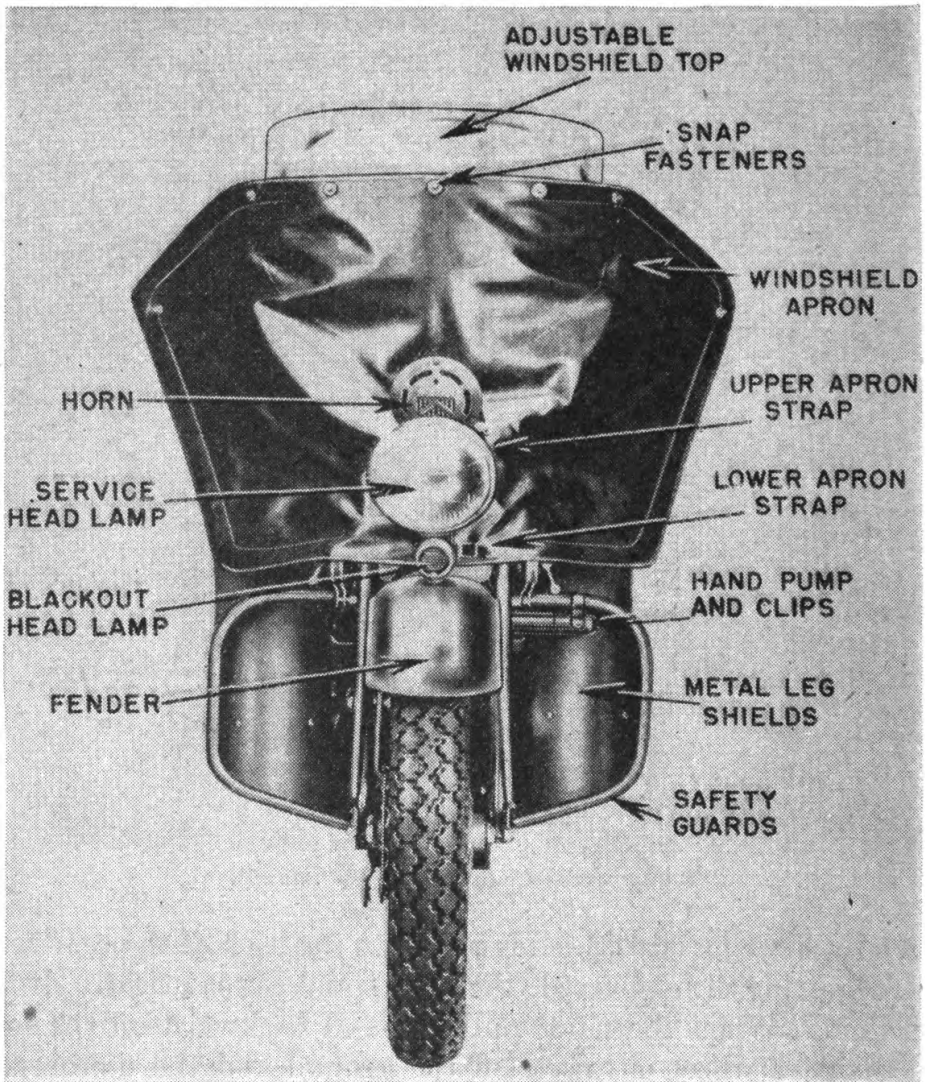

FIGURE 109.—Fully equipped motorcycle—front view.
**92. Equipment.—a. Miscellaneous.**—Military motorcycles are equipped with certain extra equipment for protection and comfort, such as safety guards, leg shields, and windshield (fig. 109).